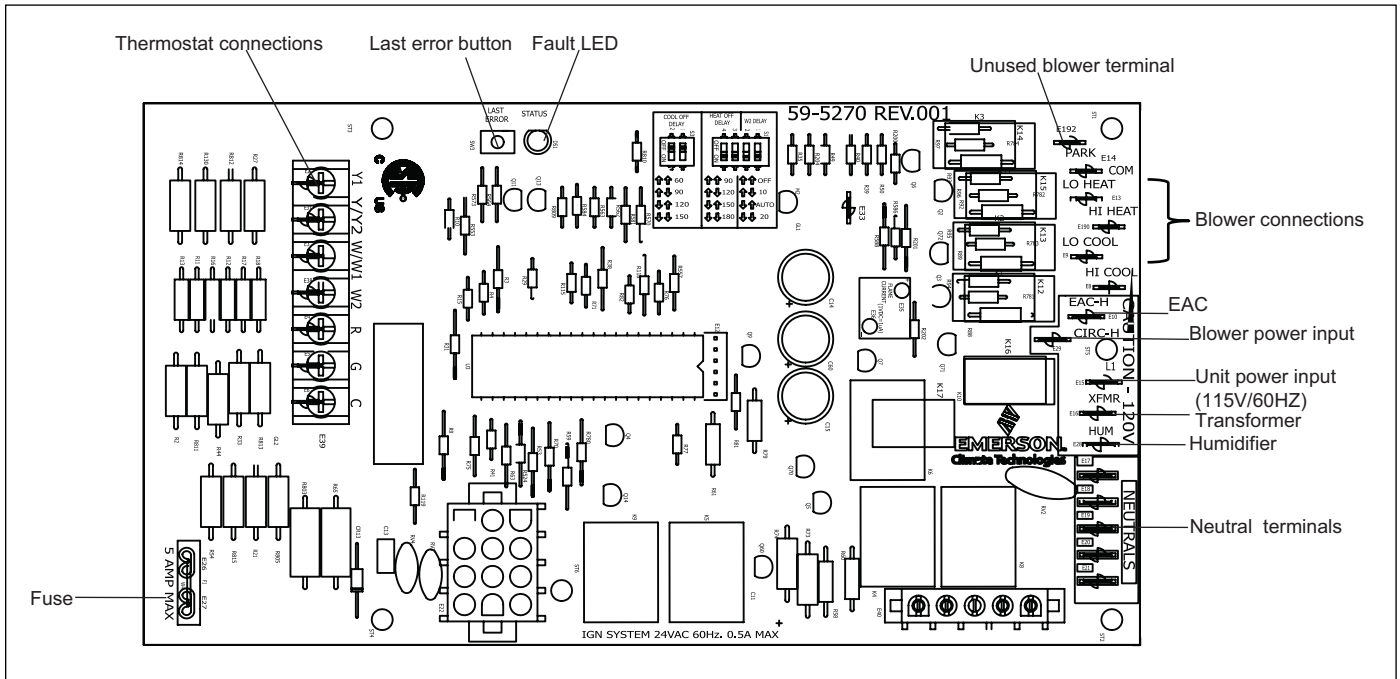
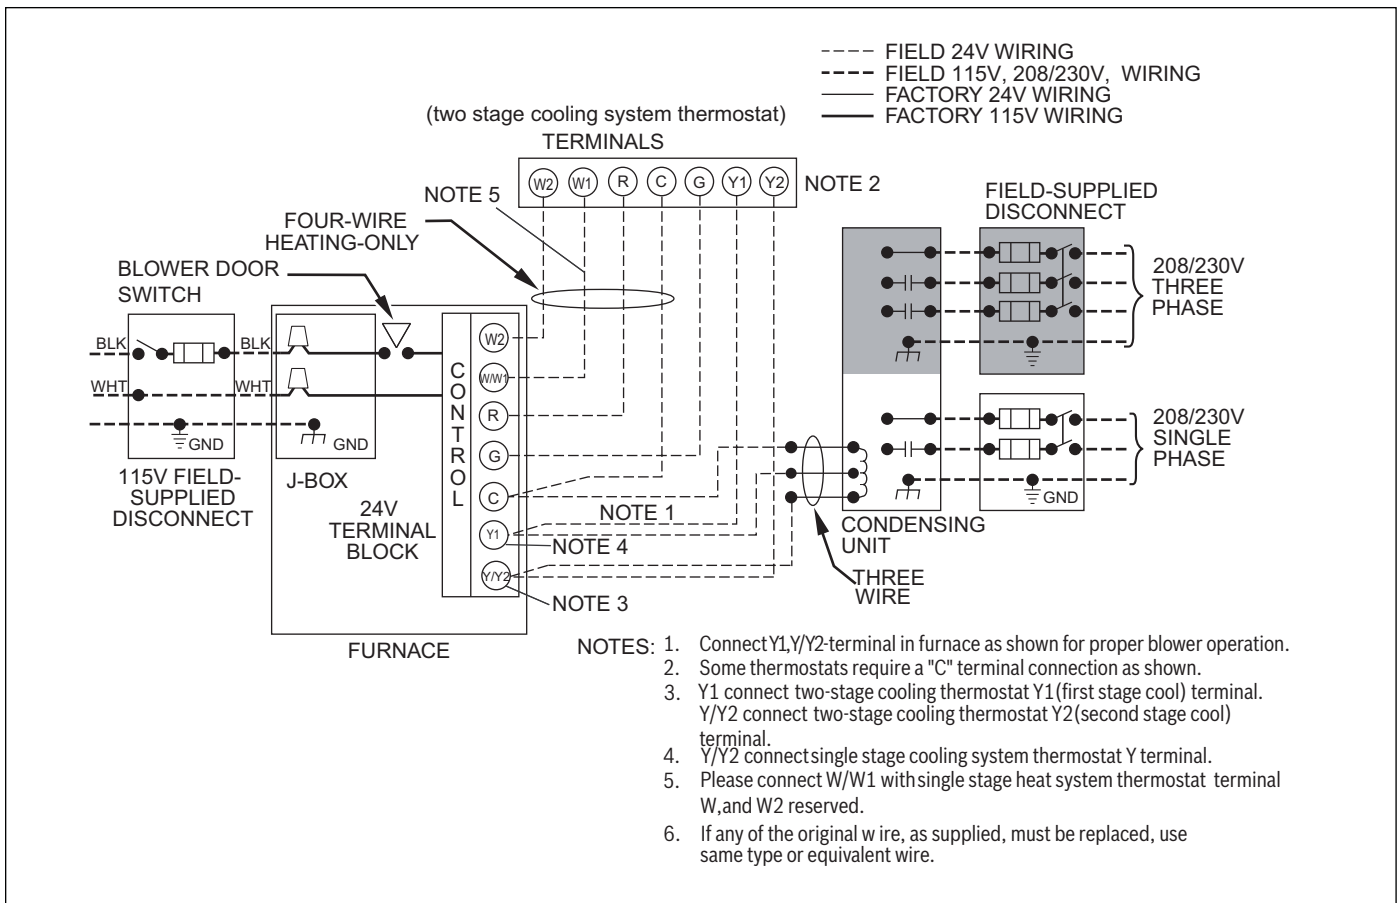

Figure 35 Furnace Control
Figure 36 Heating and Cooling Application Wiring Diagram with 2-Stage Thermostat
5. Connect line voltage leads as shown in Fig. 36.
See Fig. 35 and Fig 36.
12. Complete electrical box wiring and installation. Connect line voltage leads as shown in Fig. 36. Use best practices (NEC in U.S.) for wire bushings, strain relief, etc.
Make field 24V connections at the 24V terminal strip (See Fig. 35.). Connect terminal Y as shown in Fig. 36 for proper cooling operation. Use only 18 AWG, color-coded, copper thermostat wire.
For connection to an Electronic Air Cleaner (if needed), use ¼-inch female quick connect terminals to engage with the two ¼-inch male quick connect terminals on the control board marked EAC-H and EAC-N. The terminals are rated for 115 VAC, 1.0 amps maximum and are energized when blower motor is in operation (see Figure 35).
Connect an accessory 24 VAC 0.5 Amp. maximum humidifier using the ¼-inch male quick connect terminals marked HUM-H and HUM-N, respectively, on the control board. The HUM is energized when gas valve relay is energized (see Figure 35).
1. Maintain 115V wiring and ground. Improper polarity will result in rapid flashing LED and no furnace operation (See Fig. 36).
2. Make thermostat wire connections at the 24-V terminal block on the furnace control. Failure to make proper connections will result in improper operation (See Fig. 36).
Read and follow the wiring diagram (Fig. 36) very carefully.